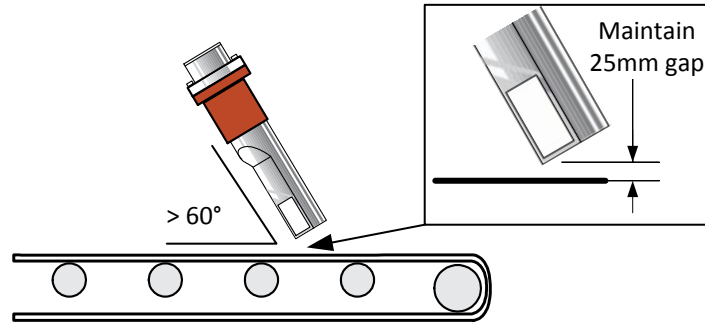

Figure 10: Hydro-Probe angled at 45° to reduce build-up
- The Hydro-Probe body can be installed at an angle of between 90° and 60° to the conveyor belt to reduce build-up of material. It is important to maintain the 45° angle to the material flow and the 25mm gap to the conveyor belt see Figure 10.